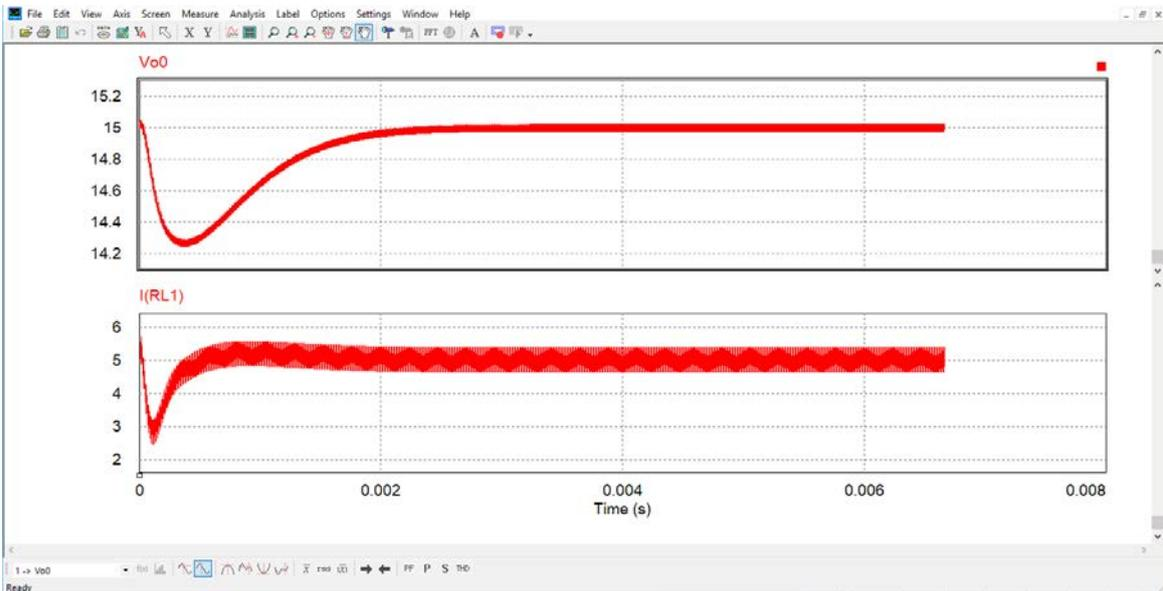

Figure 26: Result of Psim simulation
2. This result present a time domain check, but this check can be done in terms of a frequency analysis. To do that, only minor modifications of the schematics are required. See Figure 26.